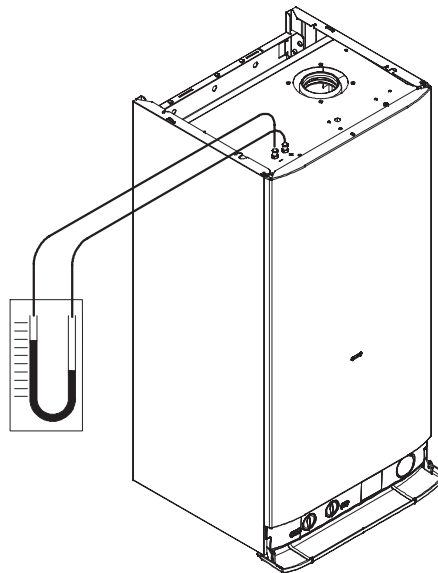

Figure 17.3
- 1 Remove the caps of the pressure test points located on the top of the boiler and connect a differential pressure gauge (Figure 17.3).